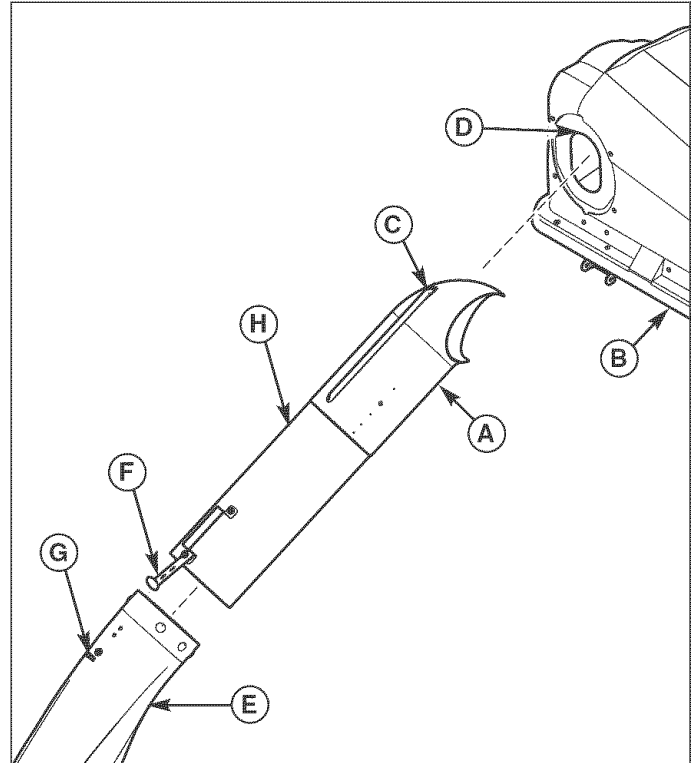

Figure 10. Connecting Tube Assembly to Lower Chute and Cover
1. Slide the upper tube (A, Figure 10) into cover (B) aligning ridge (C) with cutout (D) as shown.
2. Slide tube assembly(H) over lower chute (E). Secure tube assembly (H) to lower chute (E) using strap (F) and pin (G).